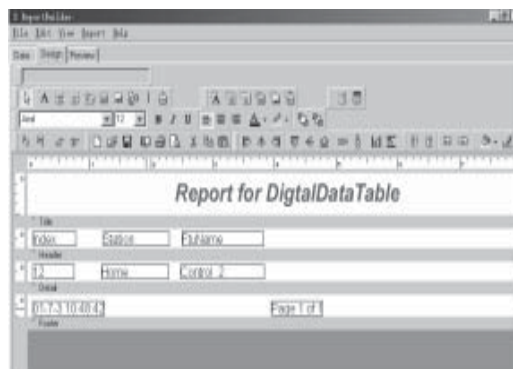
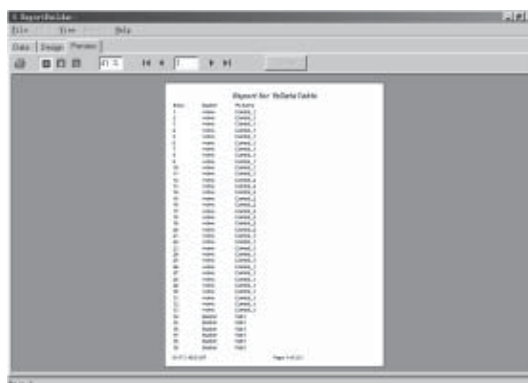

Fig. 8-16 Design the Date and the Page Code
Fig. 8-17 Preview the Report
3.4 Design the Pin Part of the Report: For example, as in Fig. 8-16, set the system variable as ;°DateTime;±, ;°PageSetDesc;±.
4. Preview the Report: Select and click the page key ;°Preview;±as in Fig. 8-16. And the diagram as in Fig. 8-17 will be displayed.